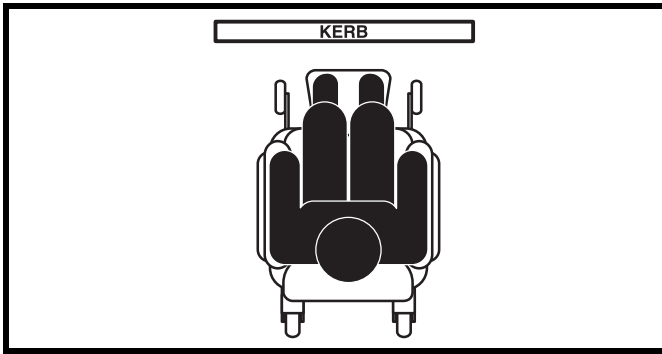

Figure 2. Correct Kerb Approach
1. Approach the kerb or obstacle slowly, and make sure the power chair is traveling perpendicular to the obstacle. **See figure 2.**